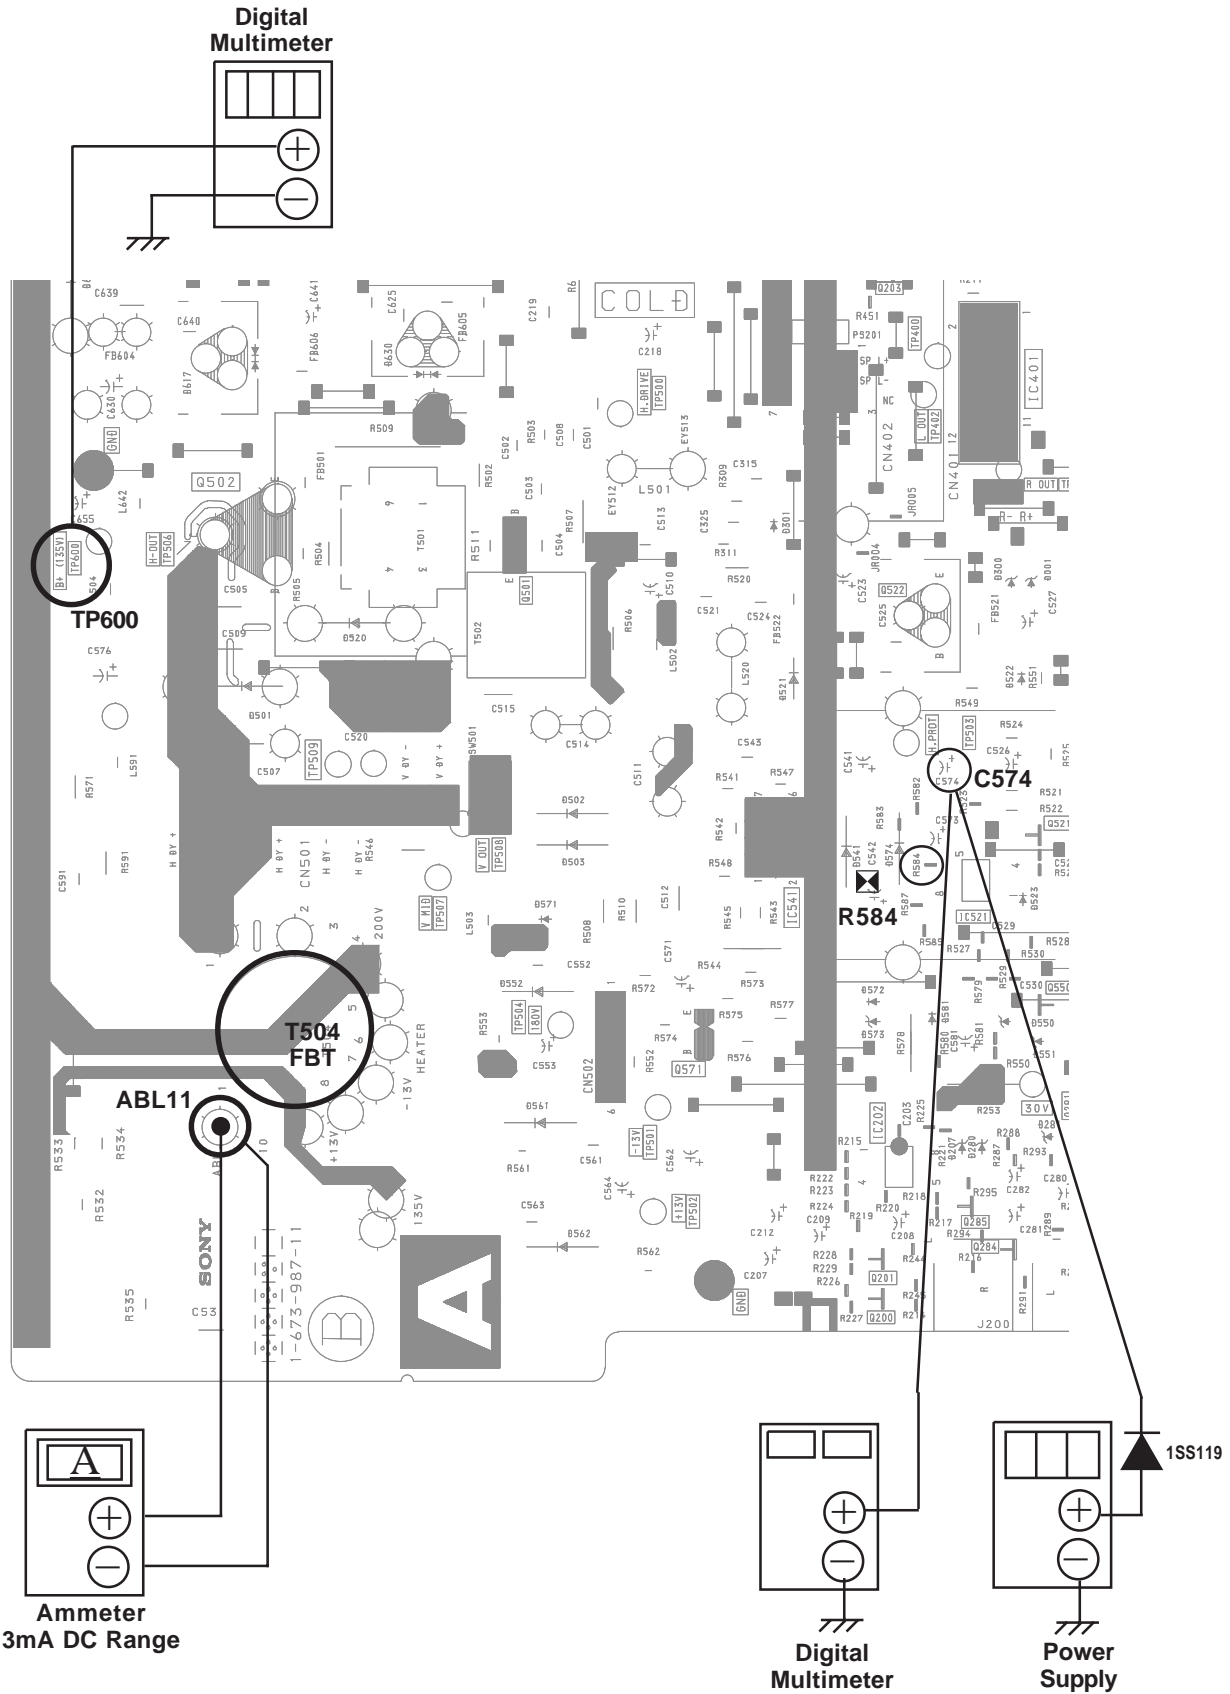

Figure 1
1. Connect the current meter between Pin 11 of the FBT (T504) and the PCB land where Pin 11 would normally attach. (See Figure 1 on the following page.)
4. Connect the digital voltmeter and the DC power supply via diode 1SS119 to C574 (+) and ground. (See Figure 1 on the following page.)